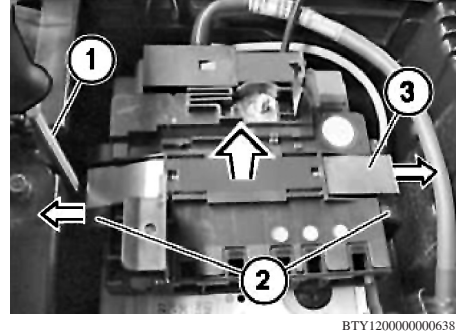

Fig. 3 Power distributor removal
- g. Press locking brackets (2) downwards and unclip. If required, use a screwdriver (1) to expand locking bracket (2) at lower end, **Fig. 3.**
- h. Remove power distributor (3), **Fig. 3.**
- b. Connect locking brackets (2) and lock in place, **Fig. 3.**